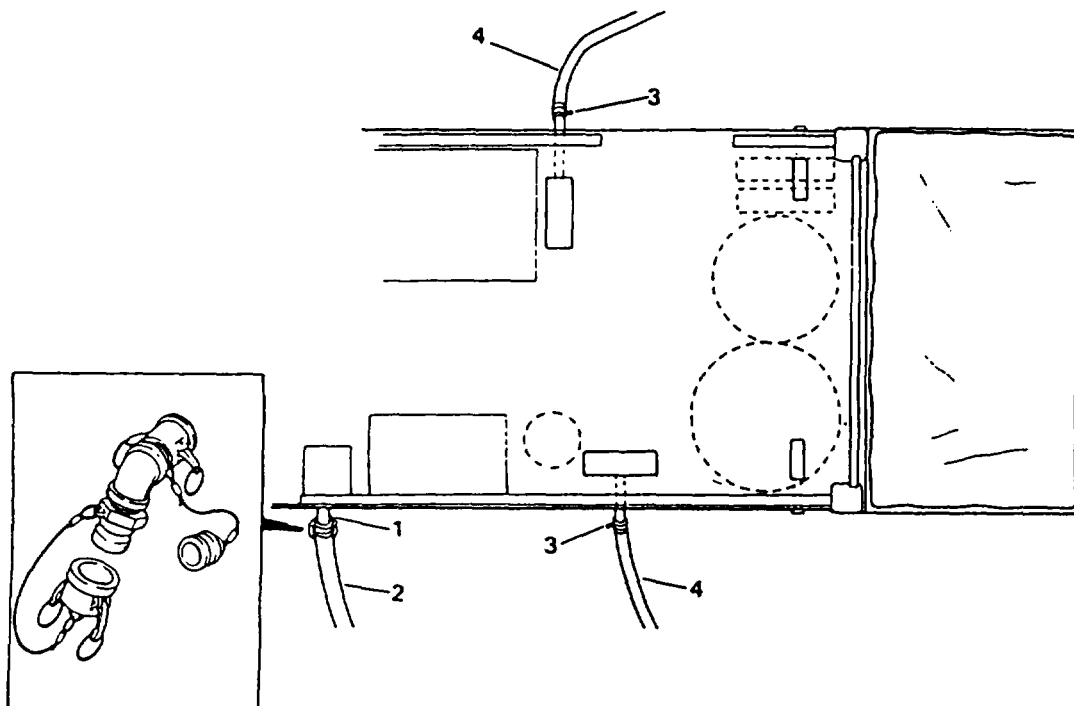

Figure 2-31. Waste Outlet and Front Sump Drain Connections (Sheet 1 of 2)
f. Waste Outlet and Sump Drain Hoses (Figure 2-31, Sheet 1 of 2). (MODEL WTA-060 ONLY)